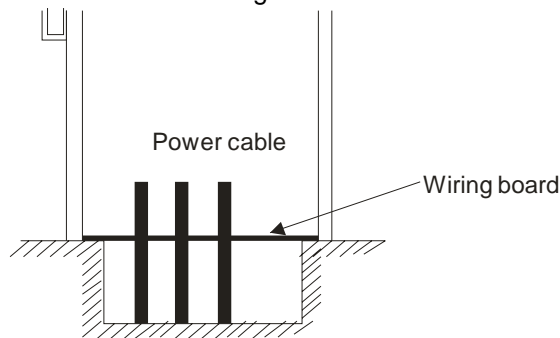

Figure 2-3
- (B) Cooling air must not be allowed to enter the cabinet through the base board via the cable trenches. To ensure the cabinet's protection rating, please select Delta's wiring board. If the customer's own wiring board is used, please make sure to check its protection rating, and confirm that it complies with fire safety and EMC requirements. If the cabinet is damaged due to customer's own wiring board, the customer shall be responsible for any resulting service fees. See figure 2-3.